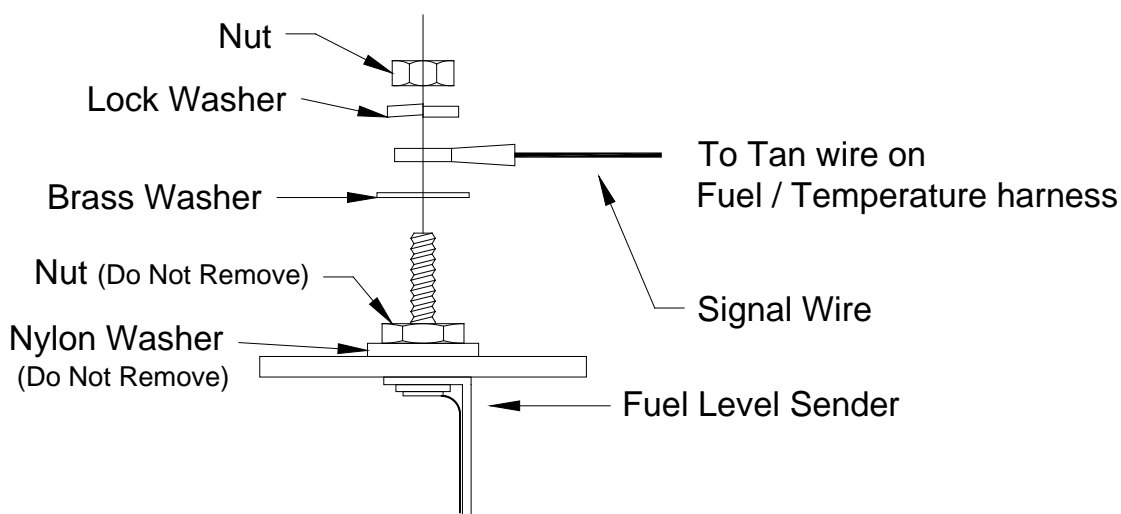

Figure 1
Step 3: Connect the fuel sender to the tan wire (position D) of the Main wiring harness. *See figure 1.*